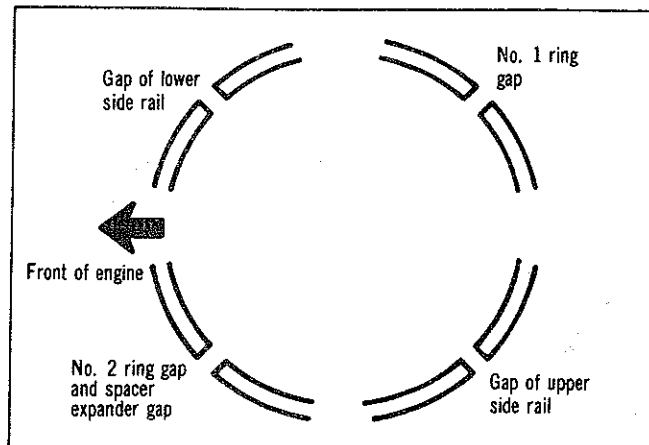

Fig. 80—Piston ring gap position
- (8) Position the piston rings so that the ring gaps are as far from each other as possible and that they do not align with the piston pin and thrust side of the piston. Refer Fig. 80.